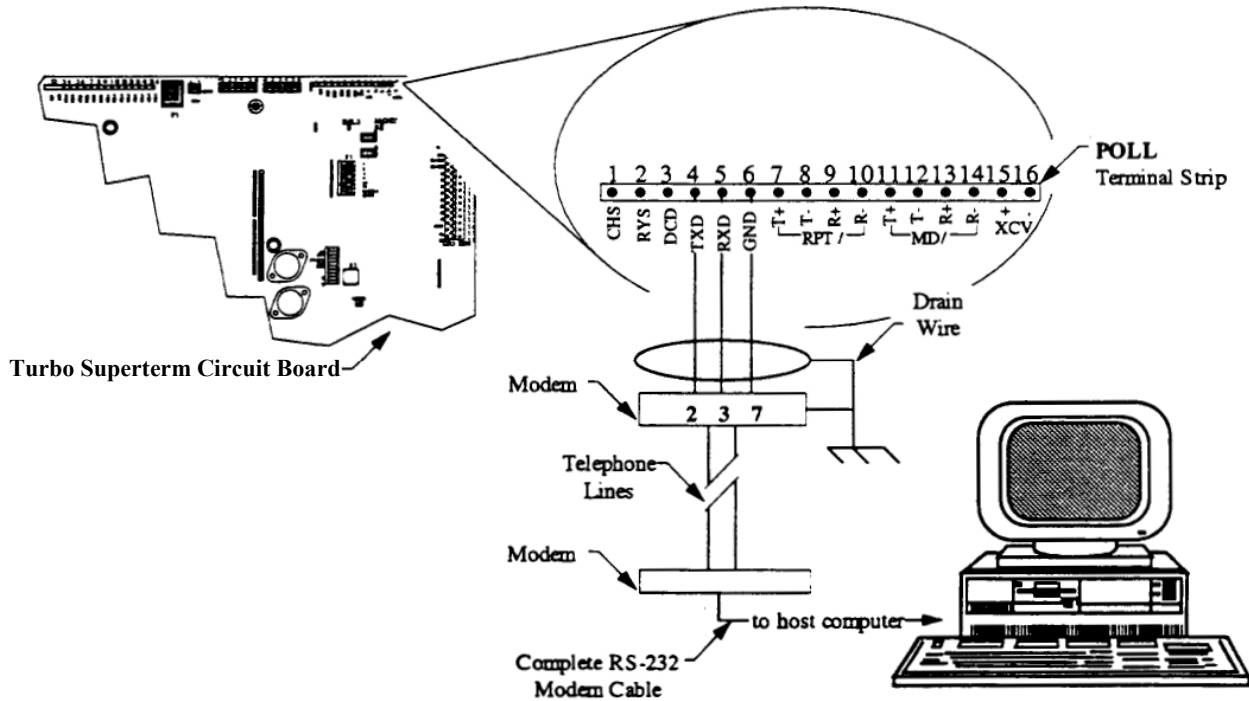

Figure 28 - Turbo Superterm-to-Modem-to-Computer Connection
Figure 28 shows a Turbo Superterm-to-host computer connection through a modem.
- 1) Connect the **Transmit** pin of the RS-232 device to POLL terminal strip pin number 4 (labeled RxD) (see Figure 28).